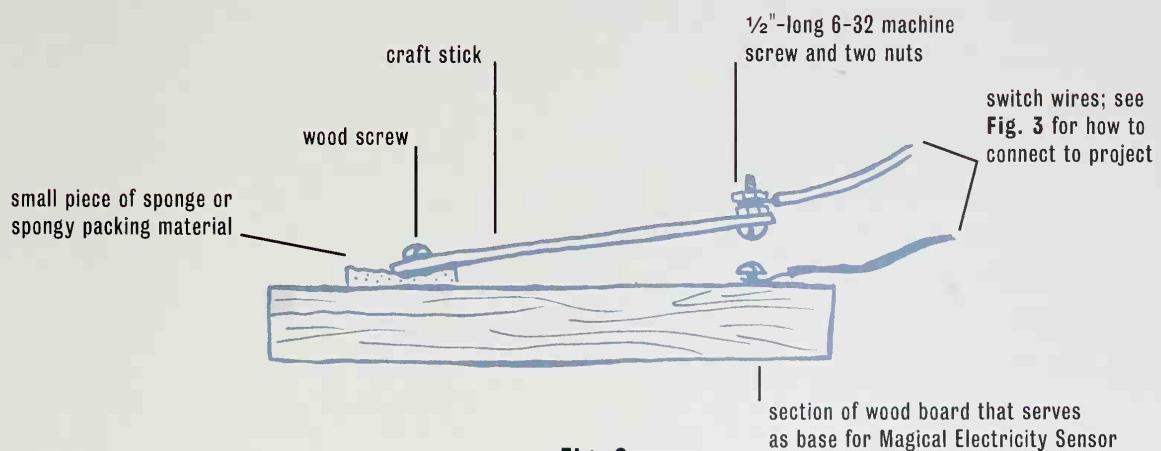

Fig. 2
- craft stick switch (see Fig. 2)
4. Make a craft stick switch (see Fig. 2).